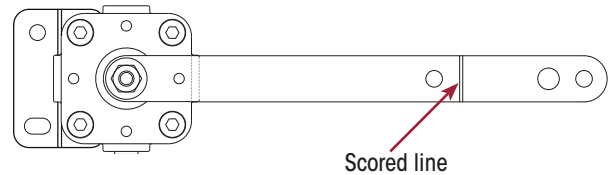

Figure 184: HCV Scored Arm Line
2. Determine the proper control-arm length. For example, if a short control arm is required, break or cut the control arm off at the scored line. Refer Figure 184.